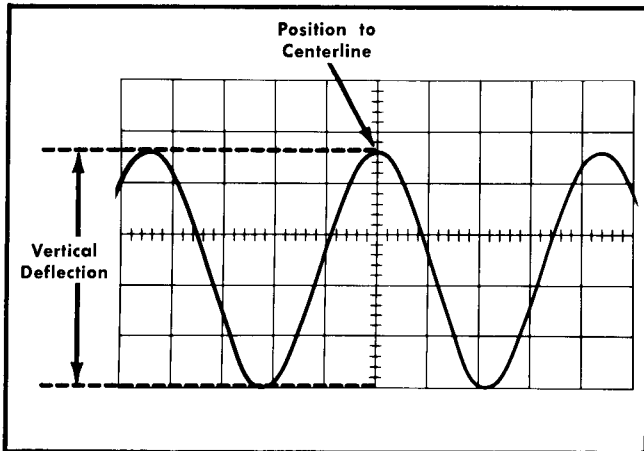

Fig. 2-14. Measuring peak-to-peak voltage of a waveform.
6. Turn the Vertical POSITION control so the lower portion of the waveform coincides with one of the graticule lines below the centerline, and the top of the waveform is on the viewing area. With the Horizontal POSITION control, move the display so one of the upper peaks lies near the vertical centerline (see Fig. 2-14).
Example. Assume a peak-to-peak vertical deflection of 4.6 divisions (see Fig. 2-14) using a 10× attenuator probe and a VOLTS/DIV switch setting of .5.